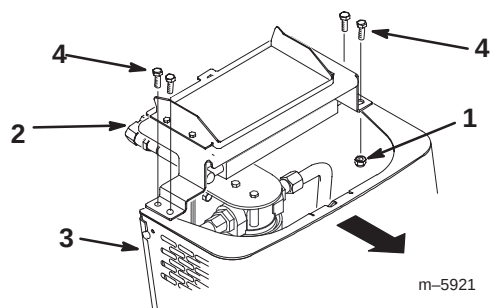

Figure 22
- Remove the shoulder bolts and nuts securing the oil cooler to the top of the front screen (Fig. 22).